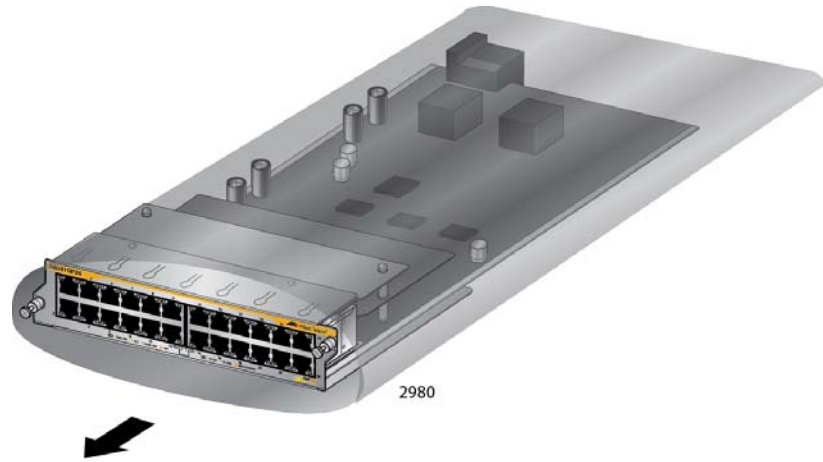

Figure 90. Removing an Ethernet Line Card from the Anti-static Bag
3. Carefully remove the Ethernet line card from the anti-static bag. Refer to Figure 90.